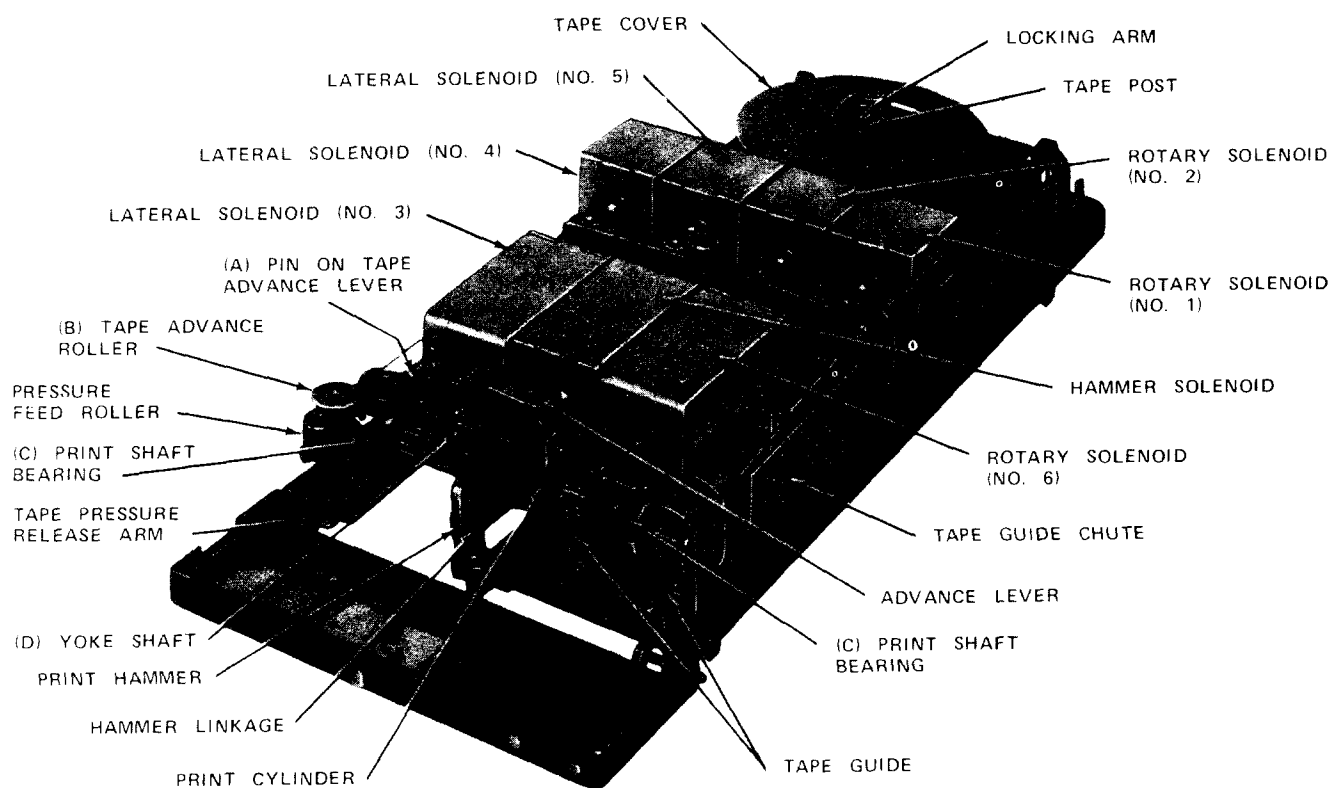

Fig. 1—KS-19717, L6, Tape Printer—Cover Removed
1.06 To show the location of component parts, the KS-19717, L6, tape printer, with cover removed is illustrated in Fig. 1.
♦If the installation date is exceeded, KS-19139, L4, lubricant should be applied sparingly to the following points shown in Fig. 1.